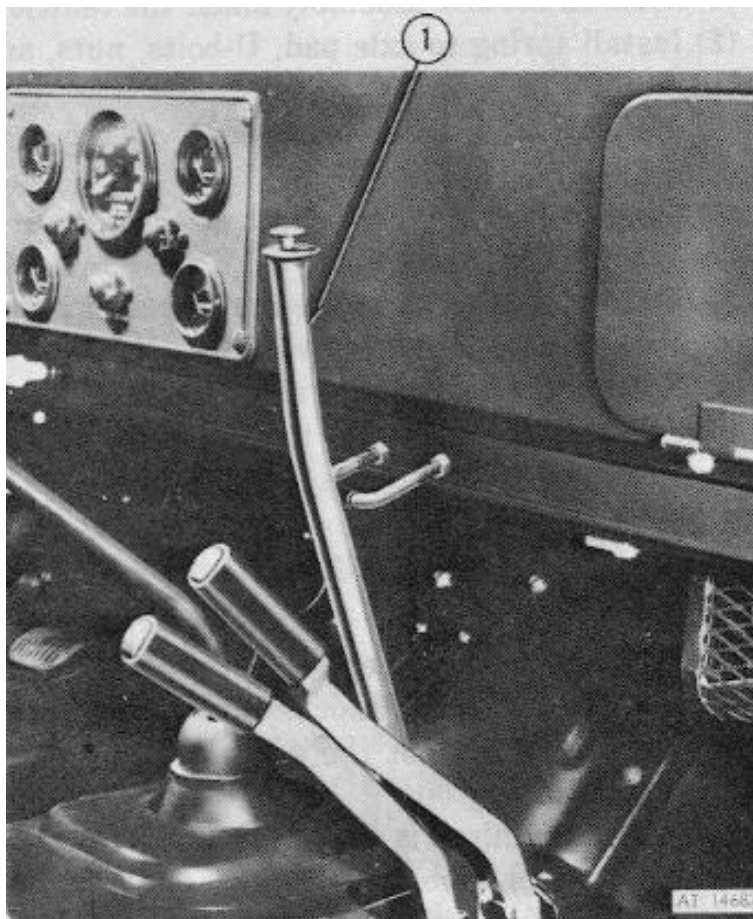

Figure 2-77. Handbrake Controls
b. Parking Brake. The external contracting band type parking brake (fig 2-77) is mounted at the rear side of the transfer case. The brake is actuated through linkage from a lever mounted on top of the brake assembly extending into the driver's compartment.